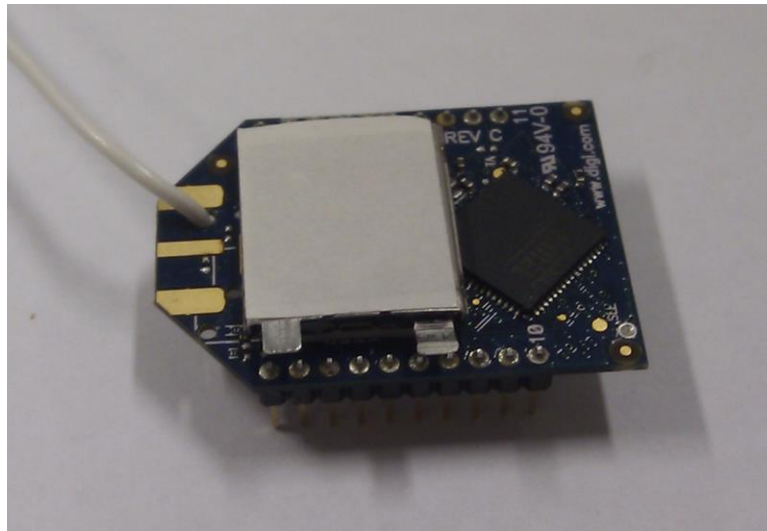

Figure 3. The attaching of the super-conductor to the RF-module.
2. Attach the super-conductor 21638023 with the paper side upwards to the module as shown in Figure 3. The soldering can be trimmed.